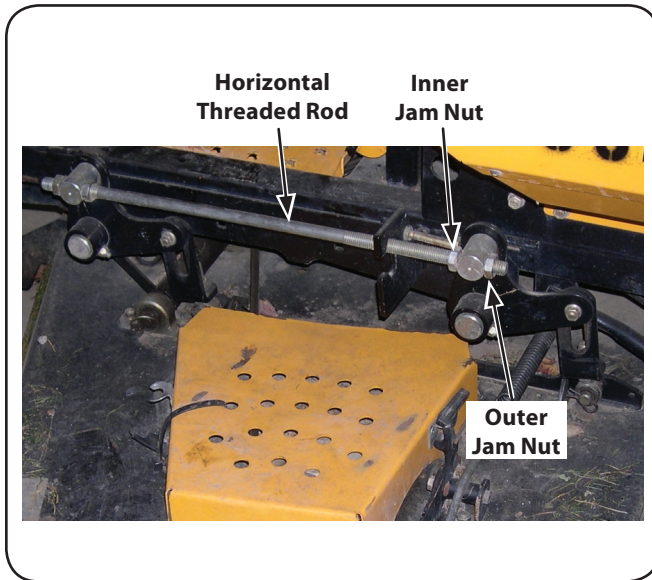

Figure 6-8
- Loosen the inner jam nuts at the rear left and right of the horizontal threaded rods. See Fig. 6-8.